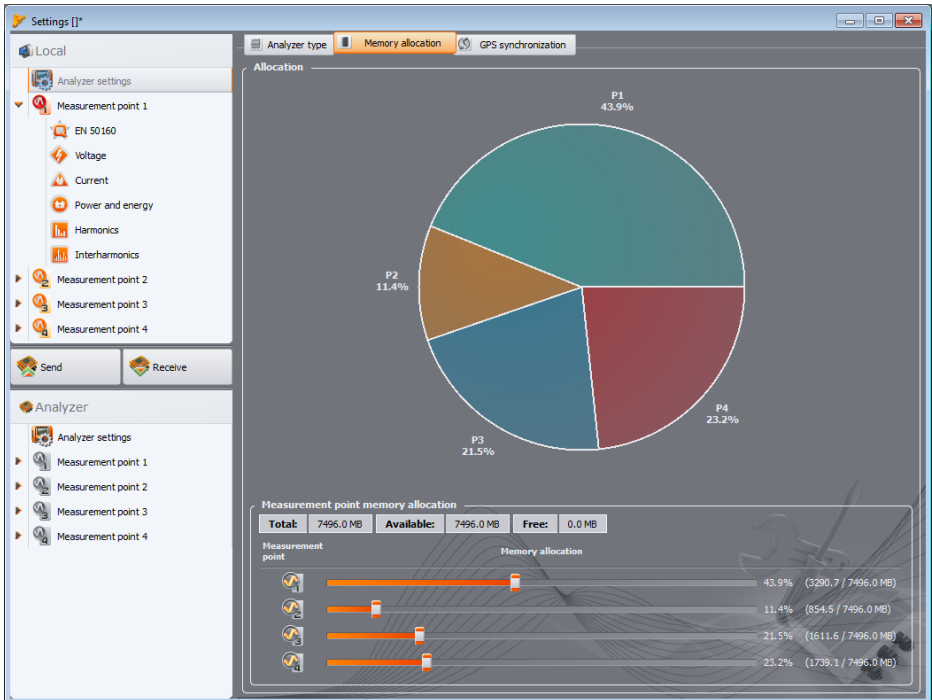

Fig. 15. Window memory allocation
- **Memory allocation:** this tab (Fig. 15) allows user to allocate space of the analyzer's memory card to the individual measurement points. Use four sliders to allocate desired amount of memory to a given point (in MB and %). In the middle part of the screen you will see a visualization of memory allocation. All available card memory (100%) may be freely divided among the four measurement points. It is possible to allocate 100% of the memory to a single measurement point; in such case recording in other points is impossible - for them only "live" preview of mains parameters is available. All measurement points have linear recording in the memory, when the memory allocated to a given point is used up, the recording stops. Please remember that modification of memory allocation will require deleting all data from the memory card. Thus, it is advisable to download such data and save it on a local disk. New memory allocation is sent to the analyzer after clicking **Send** button (along with configurations of all measurement points).